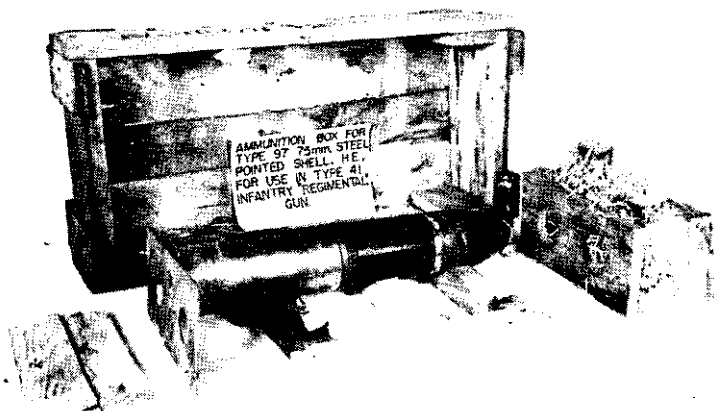

Figure 150.—Packing box for Model 97 (1937) 75-mm high-explosive shells (two complete rounds).
(5) *Packing*.—Ammunition is packed in 2- and 4-round wooden boxes (figs. 150 and 151) and in 3-